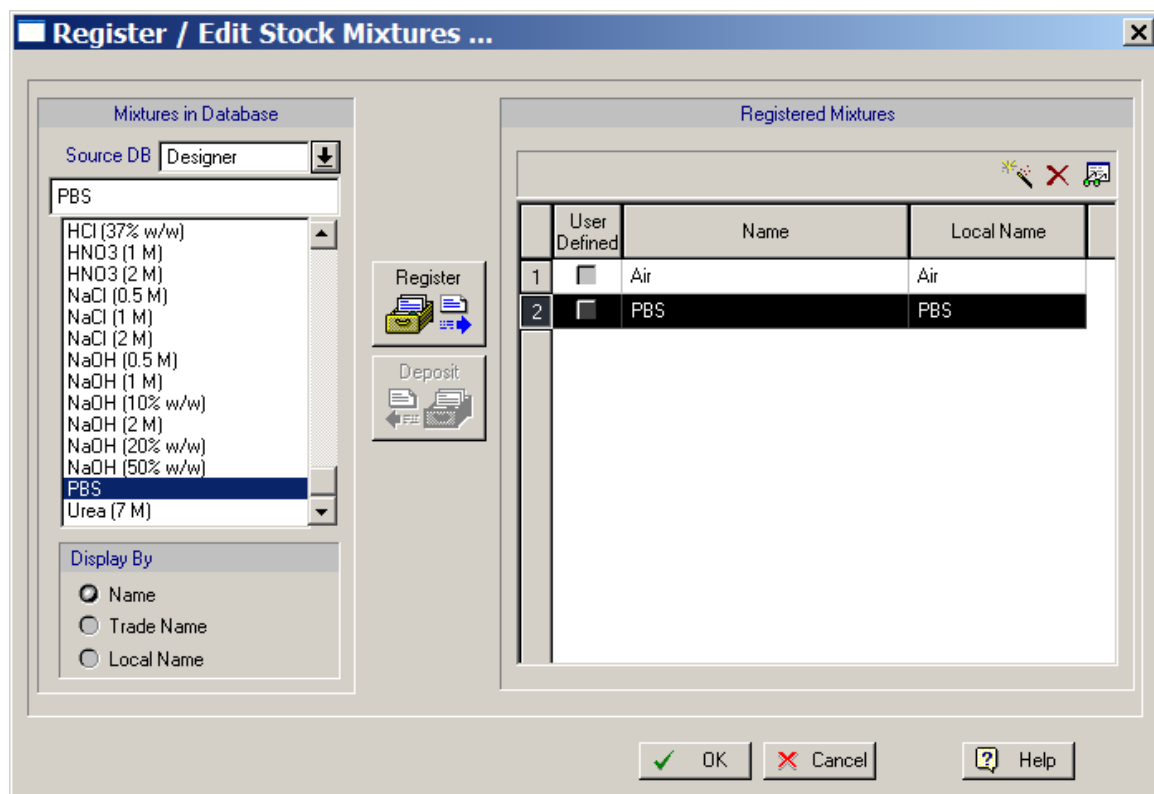

Figure 3.7: Dialog for editing the properties of a mixture.
1. Locate the mixture in the registration table and click on the box that displays the row number of the mixture (e.g., Number 2 for PBS in Figure 3.7). Notice that when you click on it, the whole row that describes the mixture is highlighted. Now the mixture is considered selected.